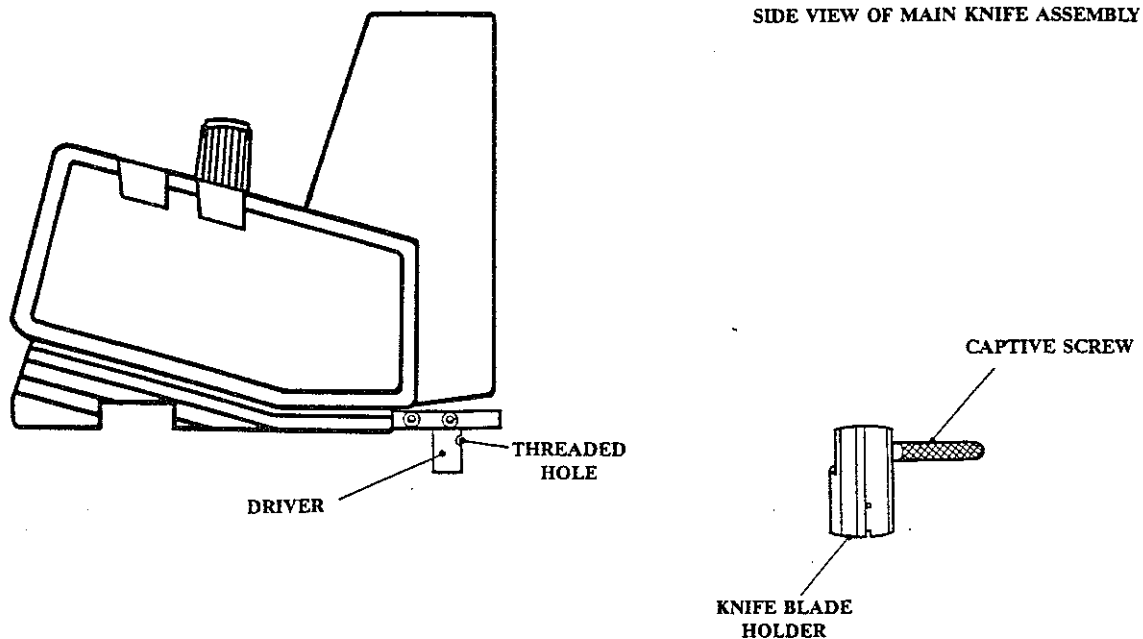

FIGURE 1-6. ATTACHING THE KNIFE HOLDER TO THE KNIFE ASSEMBLY
2. Attach the knife holder to the knife assembly by screwing the long captive screw into the threaded hole in the blade driver as shown in Figure 1-6.